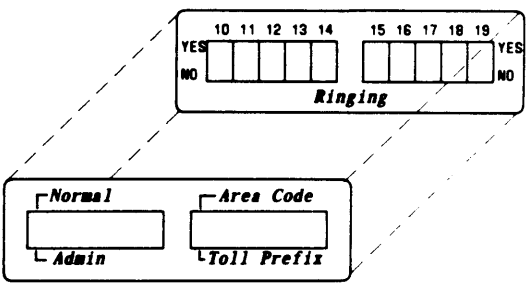

Figure 4. Model 410 Control Unit Switches Label
- 1 - Switches label for Model 410 (Figure 4)